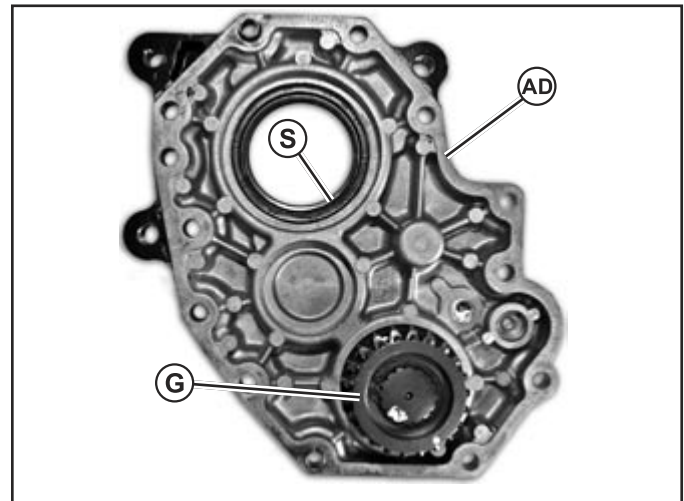

Fig. 26, PTO Rear Case Cover
3. Remove PTO drive gear (G). Inspect parts and replace as necessary. (Fig. 26)
4. Remove and replace oil seal (S) from cover. Install new seal into cover with the closed side of the seal into the bore first. Use a disk driver to push seal to bottom of bore. (Fig. 26)